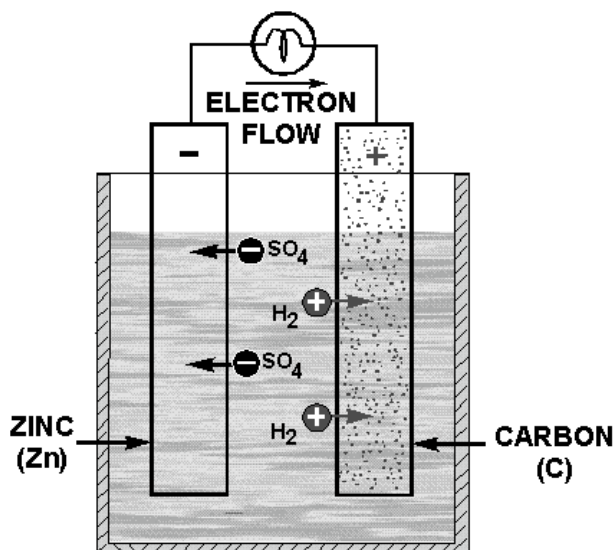

Figure 2-1.—Simple voltaic or galvanic cell.
A cell is a device that transforms chemical energy into electrical energy. The simplest cell, known as either a galvanic or voltaic cell, is shown in figure 2-1. It consists of a piece of carbon (C) and a piece of zinc (Zn) suspended in a jar that contains a solution of water (H_2O) and sulfuric acid (H_2SO_4) called the electrolyte.
The current flow through the load is the movement of electrons from the negative electrode of the cell (zinc) and to the positive electrode (carbon). This causes fewer electrons in the zinc and an excess of electrons in the carbon. Figure 2-1 shows the hydrogen ions (H_2) from the sulfuric acid being attracted to the carbon electrode. Since the hydrogen ions are positively charged, they are attracted to the negative charge on the carbon electrode. This negative charge is caused by the excess of electrons. The zinc electrode has a positive charge because it has lost electrons to the carbon electrode. This positive charge attracts the negative ions (SO_4) from the sulfuric acid. The negative ions combine with the zinc to form zinc sulfate. This action causes the zinc electrode to be eaten away. Zinc sulfate is a grayish-white substance that is sometimes seen on the battery post of an automobile battery.
In figure 2-1 you will notice that the zinc electrode is labeled negative and the carbon electrode is labeled positive. This represents the current flow outside the cell from negative to positive.